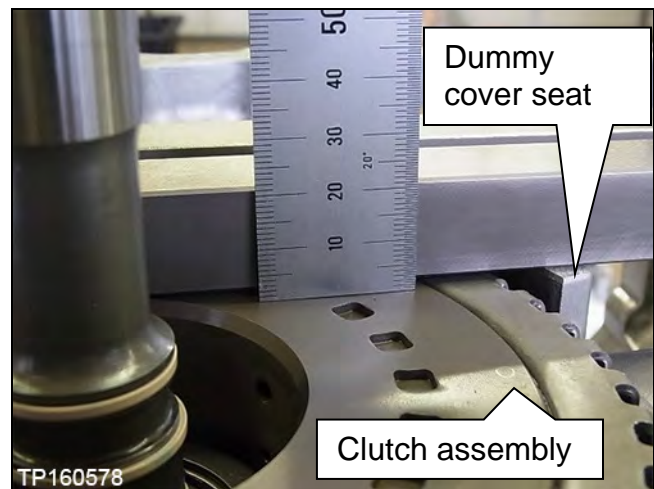

Figure 4G
**NOTE:** The clutch assembly should sit 2-3 mm lower than the dummy cover seat (Figure 4G).